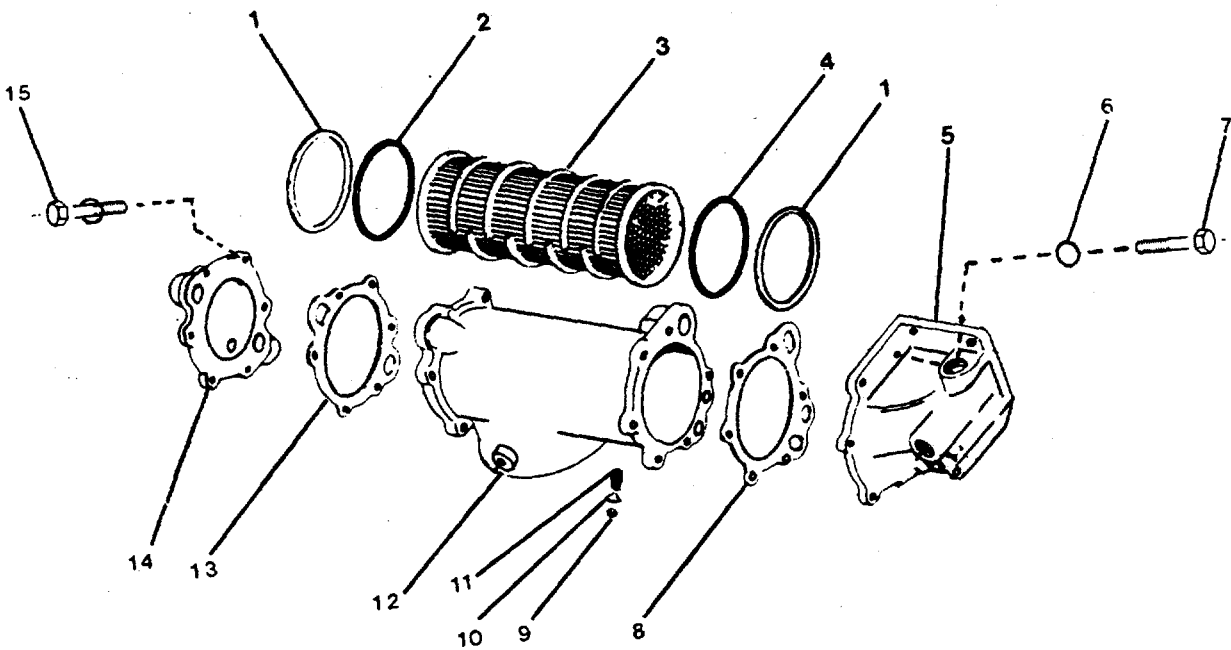
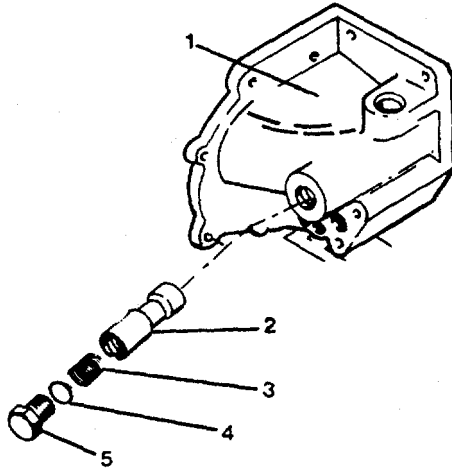

FIGURE 3-11. Oil Cooler/Filter - Filter Element Removed.
FIGURE 3-12. Oil Cooler Pressure Regulator.
The Full Flow Cooling (FFC) engine has an oil pressure regulator that is part of the oil cooler and is located in the front support of the cooler (Figure 3-11). The regulator controls the oil pressure before the oil flows through the oil filter.
- a. Remove the regulator machine thread plug (5, Figure 3-12), spacer ring (4), and helical compression spring. (3).
- b. Remove the regulator plunger (2) from the cooler support (1).
- c. Remove the cooler support (5, Figure 3-11) and cover (14) from the housing (12) by removing lockwashers (6), hexagon head capscrews (7) and assembled washer screws (15).
- d. Remove the lube oil circle cover gaskets (8, 13) and retaining rings (1). Discard the gaskets.
- e. Remove and discard the preformed packings (2, 4). Be careful not to damage the fluid filter element (3) when removing packing.
- f. Remove the element (3) cooler core from the housing (12). Remove retainer plug (9), valve disk (10), and helical compression spring (11) from the housing (12).
- a. Check the regulator plunger, (2, Figure 3-12).
- (1) Inspect the plunger (2) for scratches or other damage.
- (2) If scratch is deep enough to be felt with a fingernail, replace the plunger.
- (3) Inspect helical compression spring (3) for damaged or broken coils. Replace if damaged.
- (4) Use a valve spring compressor to compress the helical compression spring (3) to 1.820 inches (46.23 mm). The force required must be between 22 and 26 pounds. Replace if necessary.
- b. Clean and inspect the cooler element (fluid transmission center) (3, Figure 3-11) as follows:
- c. Clean the housing (12), support (5), and cover (14) with cleaning solvent.
- (1) Check the cooler housing (12), support (5) and cover (14) for cracks, damage and corrosion (Figure 3-11). Replace damaged parts.
- a. Place element (3, Figure 3-11) into the housing (12). Place the housing (12) with the element on a flat workbench.
- c. Install the valve disk (10, Figure 3-11) and helical compression spring (11) and secure with retainer plug (9).
- d. Apply a coat of clean lubricating oil to a new preformed packing (2, Figure 3-11). Place packing between the element (3) and the housing (12). -Ensure that the packing does not protrude over the element and housing.
- e. Push the packing (2) into the housing. Using "O" ring mandrel. Tap mandrel with a plastic hammer until it is against the element and housing.
- f. Install the retaining ring (1). Ensure that the part number on the ring faces out.
- g. Install a new gasket (13) and the cover (14) to the housing (12). Tighten the assembled washer screws (15) to 30 to 35 ft-lb (40.6 to 47.4 N•m) torque.
- i. Repeat steps (d), (e), and (f) to install the packing (4, Figure 3-11) and retaining ring (1).
- j. Install a new gasket (8) and the support (5) to the housing (12). Tighten the hexagon capscrews (7) and lockwashers (6) to 30 to 35 ft-lb (40.6 to 47.4 N•m) torque.
- n. Install the plunger (2, Figure 3-12), compression spring (3), spacer (4), and machine thread plug (5) into the support housing (1) and tighten the plug to 20 ft-lb (25 N•m) torque.